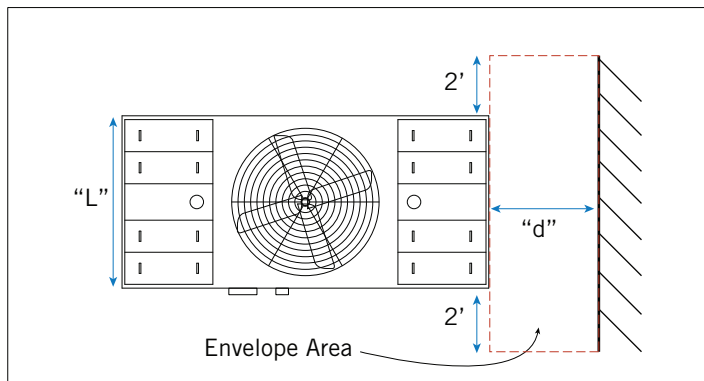

Figure 2a. Plan View of a Unit Adjacent to Wall
- Air Inlet Requirements:** Should it be necessary to install a unit with the air intake facing a wall, provide at least distance “d” between the air intake and the wall, as illustrated in **Figures 2a** and **2b**.
The envelope area as illustrated on **Figures 2a** and **2b** on **Page 3** is  $[(L + 2 + 2) * d] + 2(H+h) * d$ ], where: